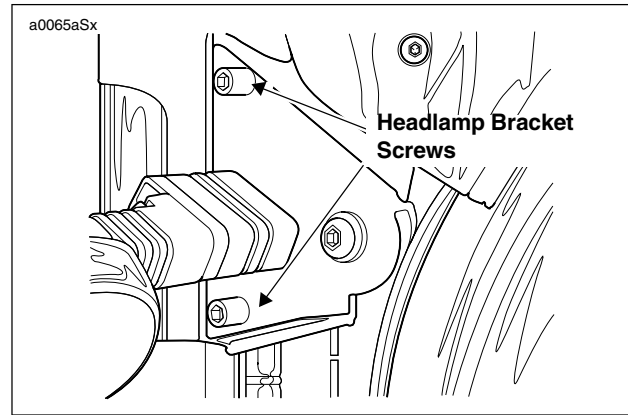

Figure 2-55. Headlamp Brackets
5. See Figure 2-55. Loosen head lamp bracket screws.